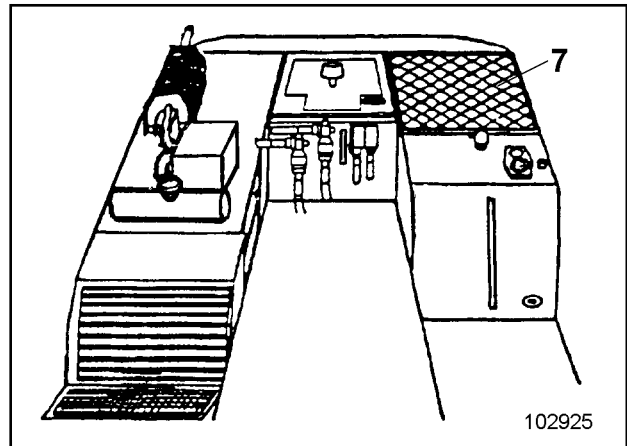

Fig. 18
- Remove the grid (7, Fig. 18) above the cooler.